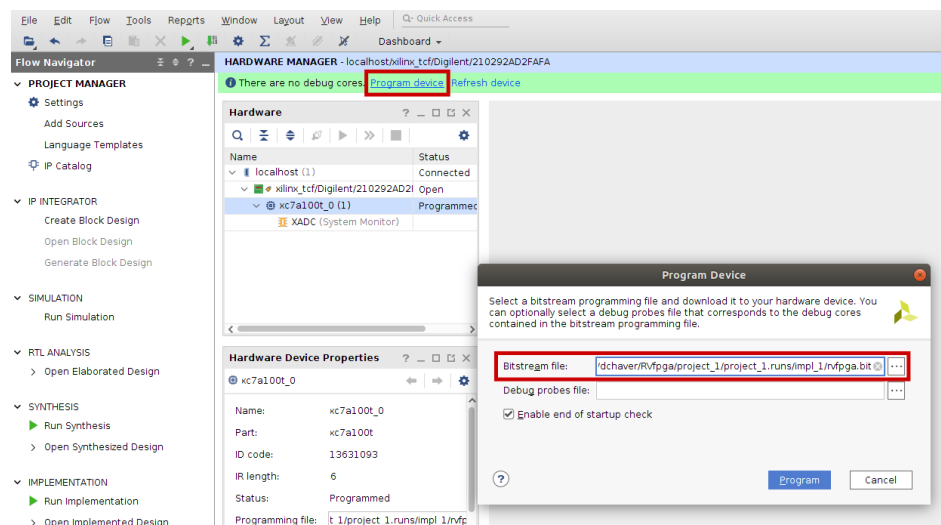

Figure 113. Program device
- f. Select *Program device* as shown in Figure 113. You will now load RVfpgaNexys onto the FPGA. In the new window, select the *Bitstream file* from `[RVfpgaPath]/RVfpga/src/rvfpganexys.bit`. Click *Program*.